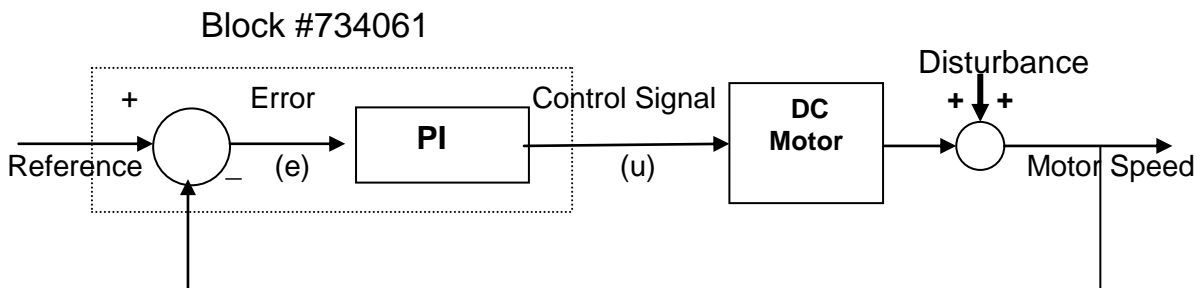

Figure M2.1: Block diagram of a closed loop PI controller
Figure M2.1 shows a block diagram of a closed loop PI controller:
- Arrange the experiment according to the block diagram shown in Figure M2.1. Such connection should be obvious by now!
- c) **Disturbance response of the Motor Speed (PI):**